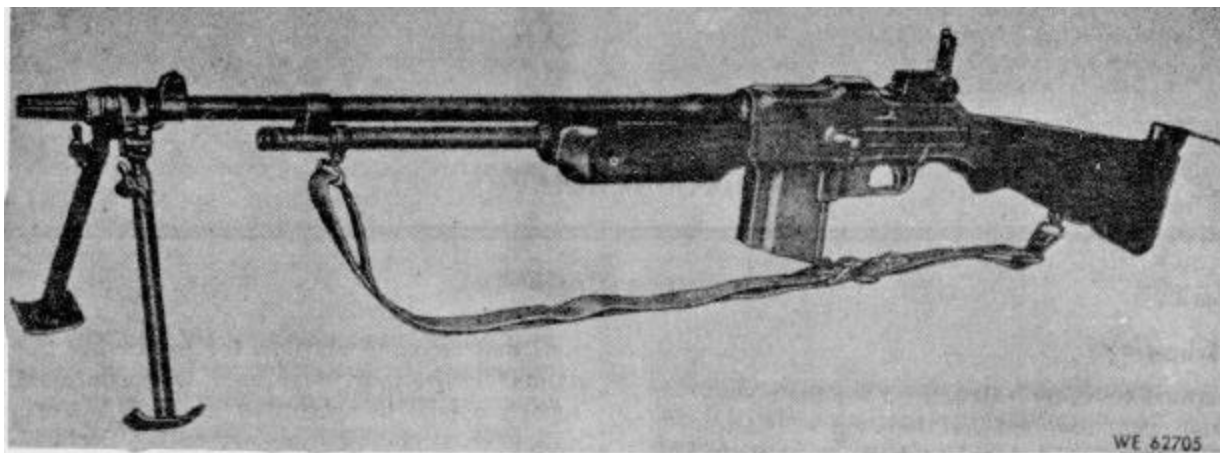

Figure 1-1. Caliber .30 Browning Automatic Rifle M1918A2 - left front view.
a. General. The Caliber .80 Browning Automatic Rifle M1918A2 (fig. 1-1) is a fully automatic, air-cooled, gas-operated, magazine fed, shoulder-type weapon, designed primarily for use with a bipod. The rifle can be easily disassembled into groups and assemblies. It is composed of the magazine, trigger guard assembly, bolt group, gas cylinder and fore end group, slide and piston group, butt stock, buffer, and actuator group, bipod assembly, rear sight assembly, and barrel and receiver group. The rifle contains a cyclic rate mechanism which is housed in the stock and trigger guard mechanism. This mechanism allows two rates of automatic fire, one at 550 rounds per minute (normal cyclic rate) and one at 350 rounds per minute (slow cyclic rate). A brief description of the components is as follows: One each cartridge magazine (1, fig C-1), front sight cover (6, fig C-4), carrying handle (5, fig C-5), and small arms sling (1, fig C-5) are furnished as component items with each weapon.